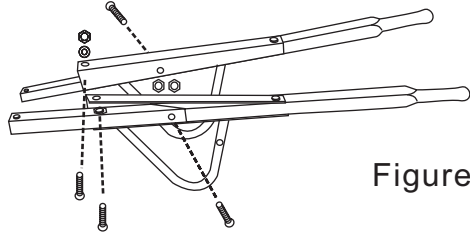

Figure 2
Step 1: Attach the Wood Handle onto the Supporter, using FOUR Medium 6mm Bolt Nut & Washer Set. Secure by wrench. As shown at Figure 2.